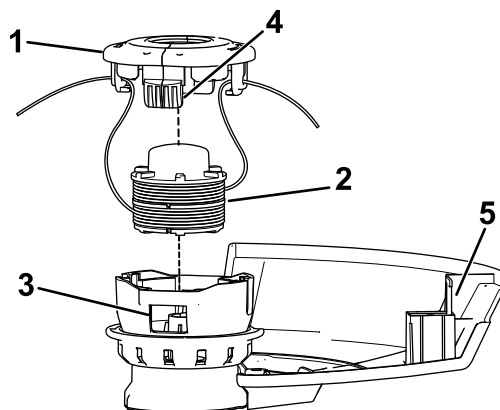

Figure 15
2. Push in the tab on the side of the spool retainer (Figure 15).